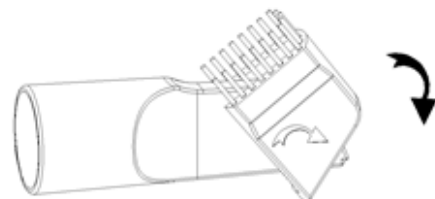

Fig.12
2. As in fig.12, open the other side with bristles of the compressed brush as the mark of an arrow to clean the sofa, the curtain and the dust on the ornaments.